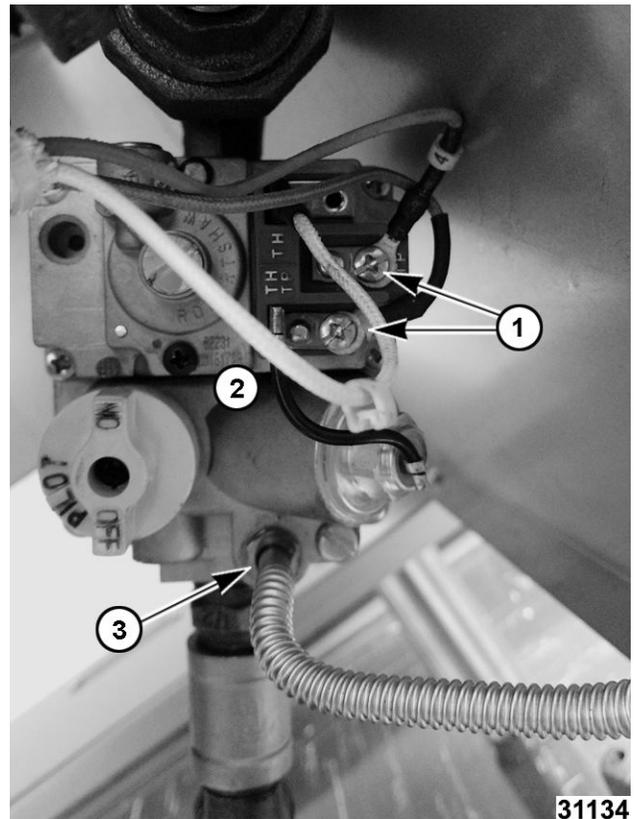

Fig. 24
- Note and disconnect wires (1, Fig. 24) from combination valve (2, Fig. 24).
- Disconnect pilot tubing (3, Fig. 24) from combination valve.